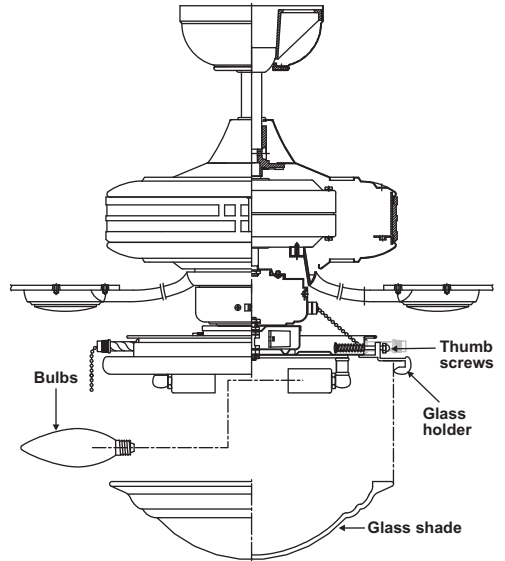

Figure 20
Step 5. Mount the glass shade to the light fixture by unscrewing partway the thumb screws on the glass holder, insert the glass, then gently tighten the thumb screws by hand evenly to the glass. DO NOT OVER TIGHTEN. (Fig. 20)